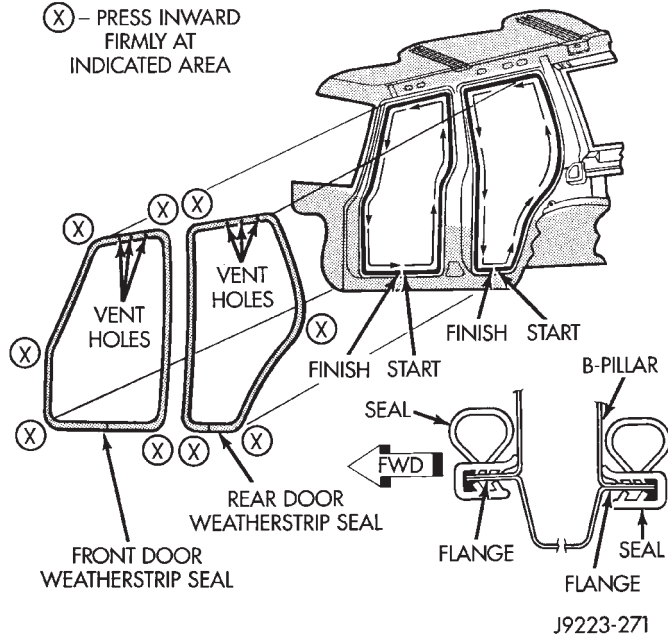

Fig. 57 Door Opening Weatherstrip
- (1) When installing a door opening weatherstrip seal, start at the door sill center line.
- (2) Move upward and around edge of door opening. Seat seal on flange.
- (3) Move upward and around the perimeter of the door opening and seat the weatherstrip on the flange (Fig. 57).
- (4) Install upper door opening trim.
- (5) Install inner scuff plate.
- (6) Install B-pillar lower trim panel.
- (7) Install B-pillar upper trim panel.